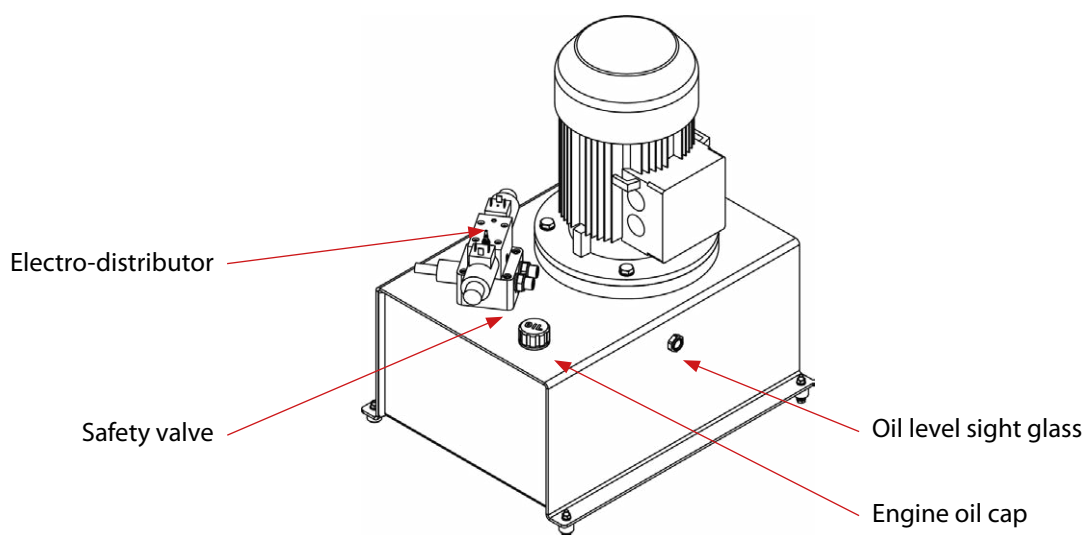

Figure 5. Identifying the hydraulic tank components
- Check the oil level in the tank every 500 hours of operation. The oil cap is at the front of the tank. If the oil level is low, fill until 3/4 full in the sight glass. (Figure 5)